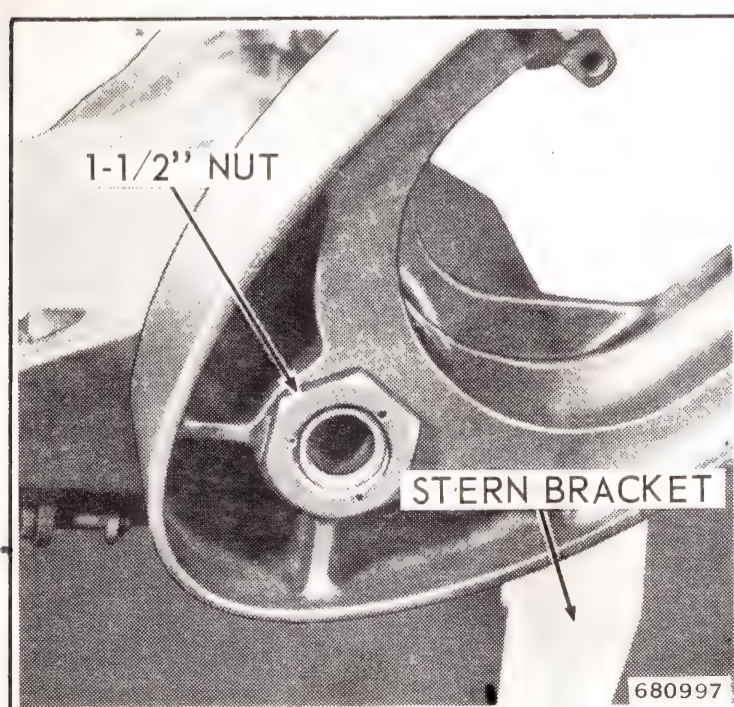
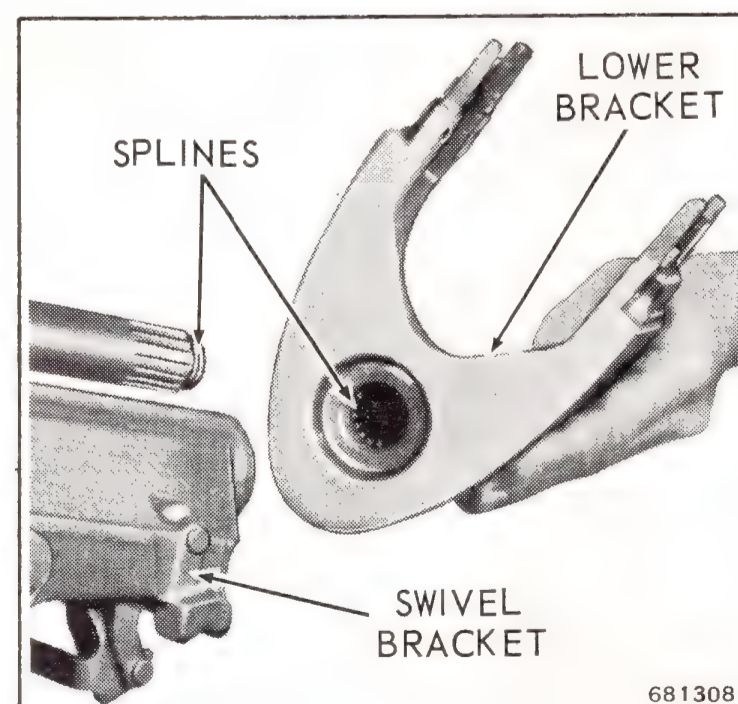

Figure 6-14. Pivot Shaft and Stern Bracket Assembly
Figure 6-15. Pivot Shaft Splines
a. Remove staked 1-1/2" nut from bottom of pivot and steering shaft assembly. See Figure 6-14. Withdraw shaft from lower bracket. NOTE: Shaft is splined to bracket. See Figure 6-15.